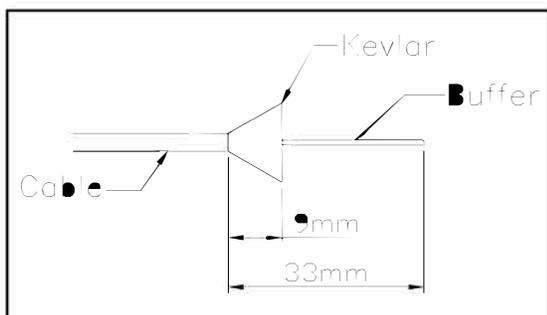

Fig 2
Step 2 Use Jacket Stripper to cut cable jacket and Kevlar to cut the strength member (Kevlar). See Fig.2 for the correct dimensions.